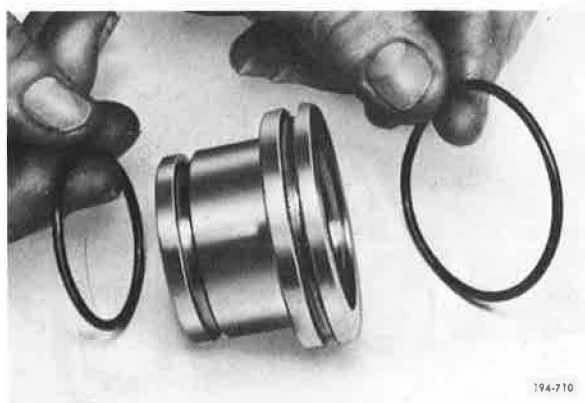

Figure 5-848. Installing O-rings
2. Install o-rings onto Direct piston. See **Figure 5-848**.